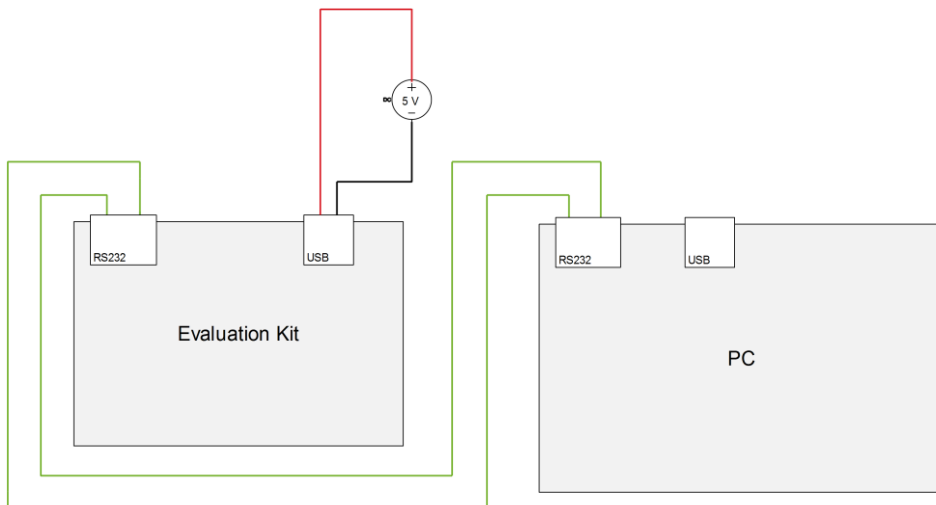

Figure 5: Connecting EVK for supply and communications when testing Power Save Mode
- The evaluation kit may only be supplied over the USB connector. This can be done by either connecting a USB cable from the evaluation kit to a supplied USB hub, or by using a USB power connector (see Figure 5). Do not connect the USB cable to the PC!